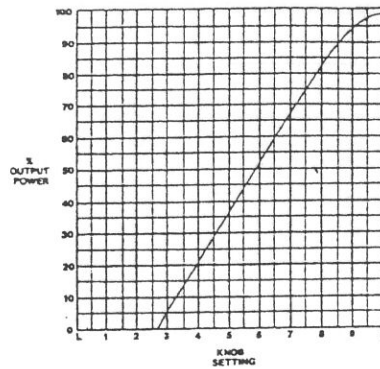

FIG. 6
2. Wherever the control knob is set, the output will remain constant, regardless of surrounding temperature. See Fig. 6 on Page 8 for the percent of output as per knob setting.